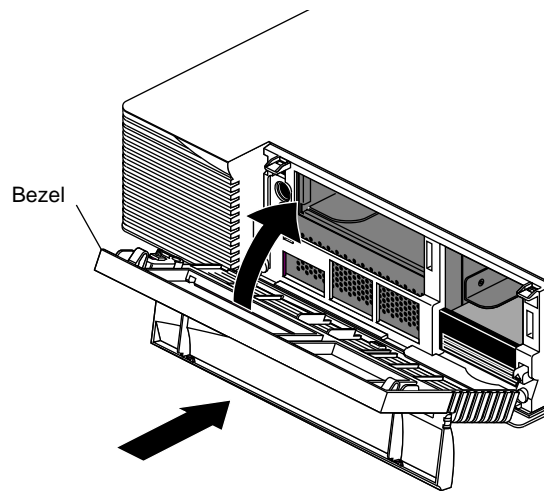

Figure 2-18 Replacing the Bezel
- Place the tabs on the bottom of the bezel in the grooves in the front of the chassis, as shown in Figure 2-18.